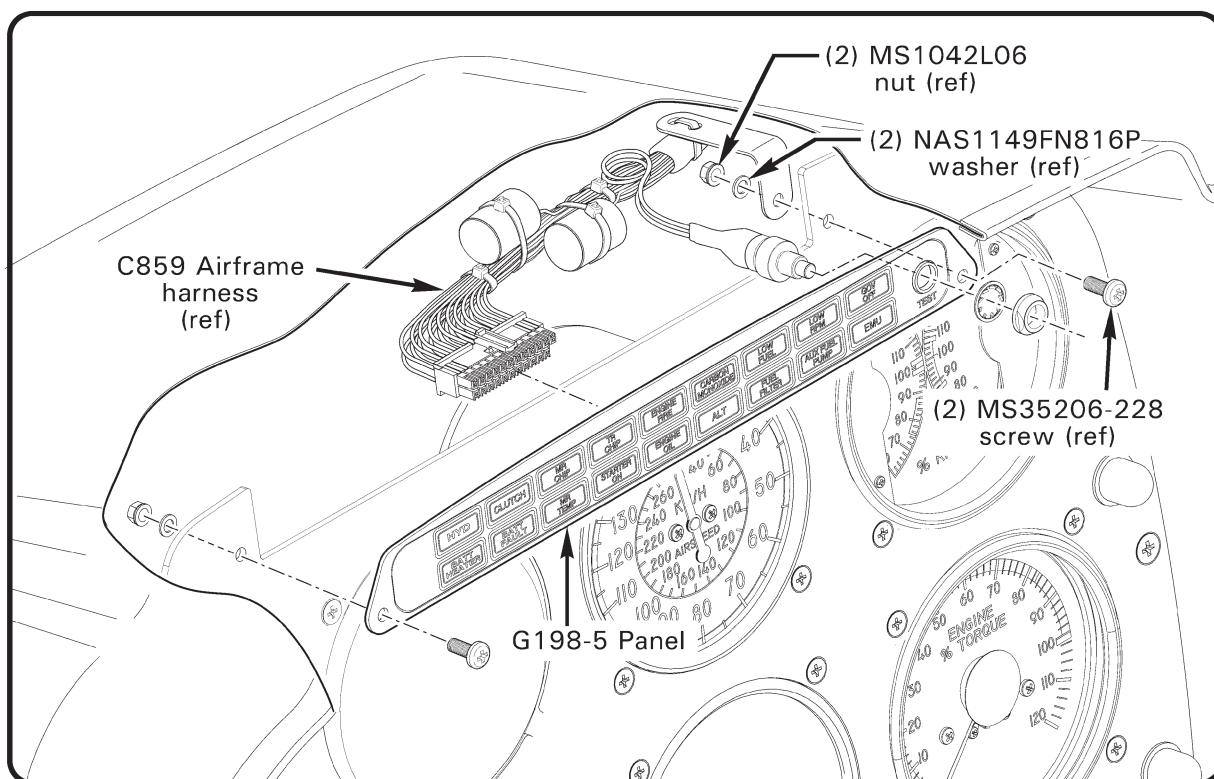

FIGURE 1 Indicator panel installation
6. Refer to Figure 1. Remove jam nut behind the console face and G198 annunciator panel. Remove the push to test switch to annunciator panel. Retain hardware and disconnect existing annunciator panel from airframe harness.